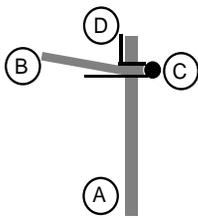

Figure 2: Correct Placement of the Float Rod Attaching Clip
Mount the switch in a horizontal position, using the mounting bracket provided. The float rod and float assembly should be attached to the device operating lever on the conduit end of the device as shown in Figure 2.
The rod has two drilled holes near one end, about 3/8" apart. Referring to Figure 2, insert the rod (A) through the device operating lever (B). Spread the sides of the Float Rod Attaching Clip (C) and push them through these holes so that one side of the clip is above and one side of the clip is below the lever. Bend the top side of the clip up against the rod to hold it in place (D).